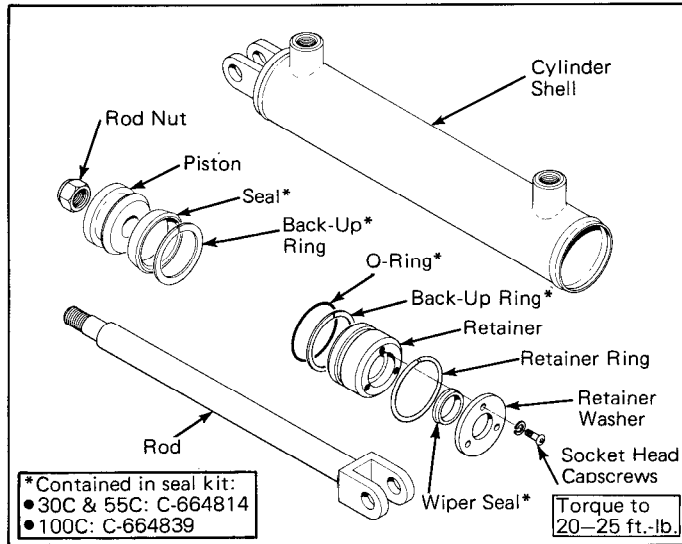

Figure 7. Cylinder Assembly
- Place the cylinder in a soft-jawed vise and remove the three socket head capscrews and lockwashers from the retainer washer at the rod end of the cylinder. Slip the retainer washer out of the shell. See Figure 7.
- Loosen the rod nut and remove the piston from the rod. See Figure 7.
- Remove the O-ring, back-up ring, and wiper seal from the retainer. See Figure 7.